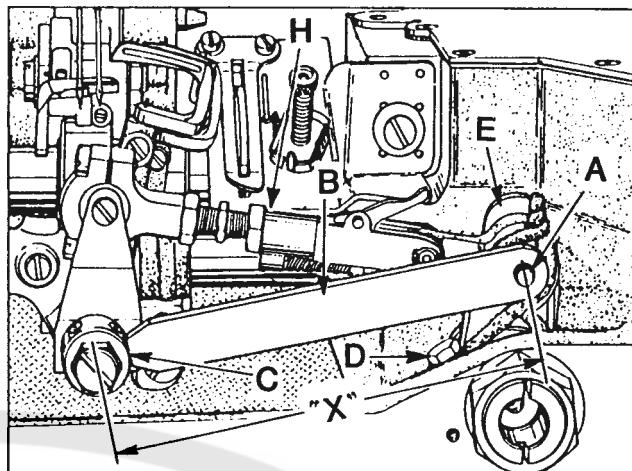
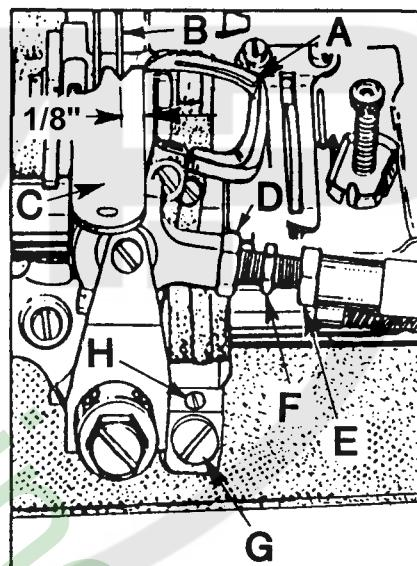

Fig. 6
Fig. 7
Turn handwheel in operating direction until looper is at the extreme right end of its travel. Check location of the center-line of right looper connecting rod bearing using gauge TT35. Place hole in gauge (B, Fig. 6) over threaded stud (A). The left end of gauge should locate against the RIGHT side of looper rocker cone (C). If adjustment is necessary, loosen clamp screw (D), reposition looper driver lever (E) as required and retighten screw (D). If a gauge is not available, the setting can be checked with a scale. "X" dimension is from centerline of stud (A) to centerline of cone (C) which should be $4\frac{1}{16}$ inch (103.2mm).
CAUTION: After adjusting the looper gauge and looper avoid, there should be shake at both end points of the looper connecting rod while rotating handwheel a full 360° (H, Fig. 6). If bind occurs loosen nuts (D and E, Fig. 7) and reposition strap (H). Retighten nuts.
Insert a new needle, type and size as specified. Using the 1/8 inch (3.2mm) looper gauge, set the looper (A, Fig. 7) so the distance from the center of the needle (B) to the point of the looper is 1/8 inch (3.2mm), when the looper is at its farthest position to the right.
If adjustment is necessary, loosen lock screw (G, Fig. 7) and turn stop screw (H) as required. Turning stop screw clockwise sets the looper to the rear and turning it counterclockwise acts the reverse. Holding looper to the front while making this adjustment may prove helpful. Tighten lock screw when setting is obtained and recheck the adjustment.